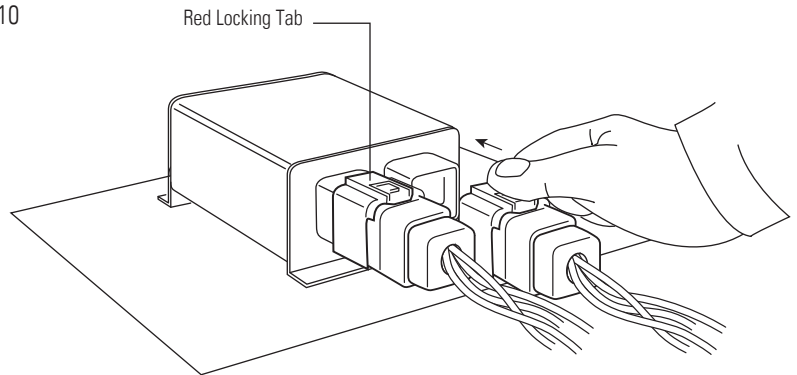

Figure 4
10. Verify vehicle power is disconnected and connect Roll Sensor to cab harness. Make sure connectors snap into position. Push red locking tab forward to lock connectors. See FIGURE 4. Gently tug on connector to verify locking. **DO NOT TUG ON WIRES, ONLY CONNECTOR.**